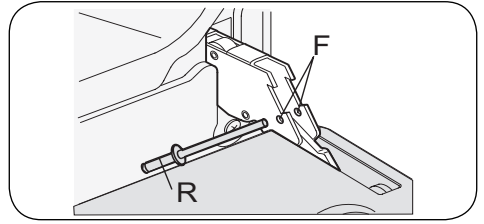

Fig. 6
**LOCK AT LEAST ONE HINGE (fig.6)**
- Open the oven door and insert rivet or nail (R) in the hole (F) of the hinge (fig. 6).